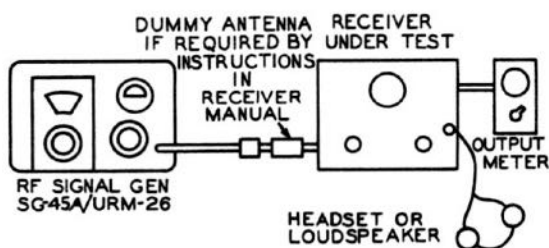

Figure 4-5. Typical Set-Up for Receiver Measurement
b. A typical set-up for measuring receiver sensitivity is shown in figure 4-5.
(1) Set receiver controls in accordance with instructions in receiver manual.
(2) Set the frequency dial of the receiver to the desired test frequency.
(3) Select equivalent frequency range on signal generator.
(4) Place METER switch in OUTPUT position, then turn OUTPUT index to bring meter pointer to red line. Set MICROVOLTS dial to 50K.
(5) Refer to receiver manual for recommended modulation frequency, degree of modulation, and
(1) Connect signal generator to receiver as shown in figure 4-5.
(2) Set receiver controls in accordance with instructions in receiver manual.
(3) Set the frequency dial of the receiver to the desired test frequency.
(4) Select equivalent frequency range on signal generator.
(5) Tune signal generator to resonance with receiver. The output voltage of the generator is usually set at some convenient level such as 1, 5 or 10 microvolts and the corresponding receiver output noted as the "reference" level.
(6) Determine the selectivity or band width curve as follows:
b. To measure signal-to-noise ratio of a receiver, make connections as shown in figure 4-5 and follow instructions in receiver manual.
b. The image ratio is measured, using the set-up shown in figure 4-5, as follows:
(1) Set receiver to desired frequency.
(2) Tune signal generator to receiver.
(3) Adjust signal generator output to produce convenient receiver output.
(4) Note MICROVOLTS dial reading of signal generator and output of receiver.
(5) Change signal generator frequency to nominal "image" frequency of receiver. Increase signal generator output to produce a convenient receiver output signal, then retune signal generator slightly for maximum receiver output.
(6) Adjust signal generator output to produce same receiver output noted in (4) above and note generator MICROVOLTS dial reading.
(7) The "image ratio" is the ratio of input voltage at image frequency to input voltage at resonant frequency for the same receiver output.
(8) The ratio is usually expressed in decibels, the conversion formula being